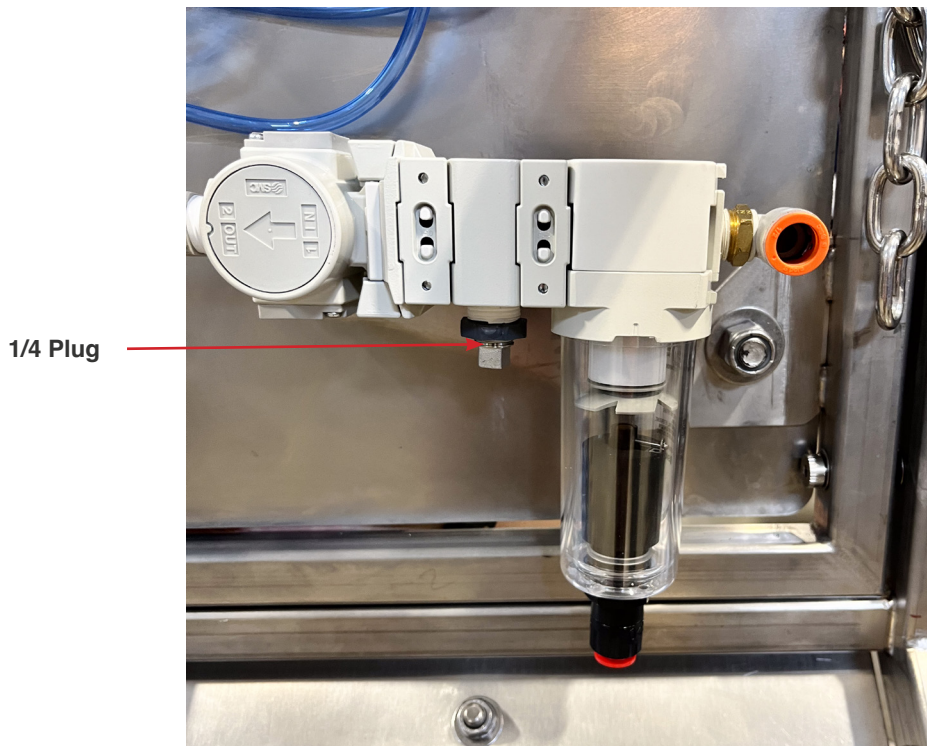

Fig. 3.2.5 - 1 - 1/4" plug on Main Air Regulator
3. Remove the 1/4" plug from the underside of the Main Air Regulator assembly (Fig. 3.2.5 - 1).
5. Install bulkhead fitting into the lower left hole on the bottom panel with threaded fitting pointing towards the front of the unit (Fig. 3.2.5 - 2, following page).